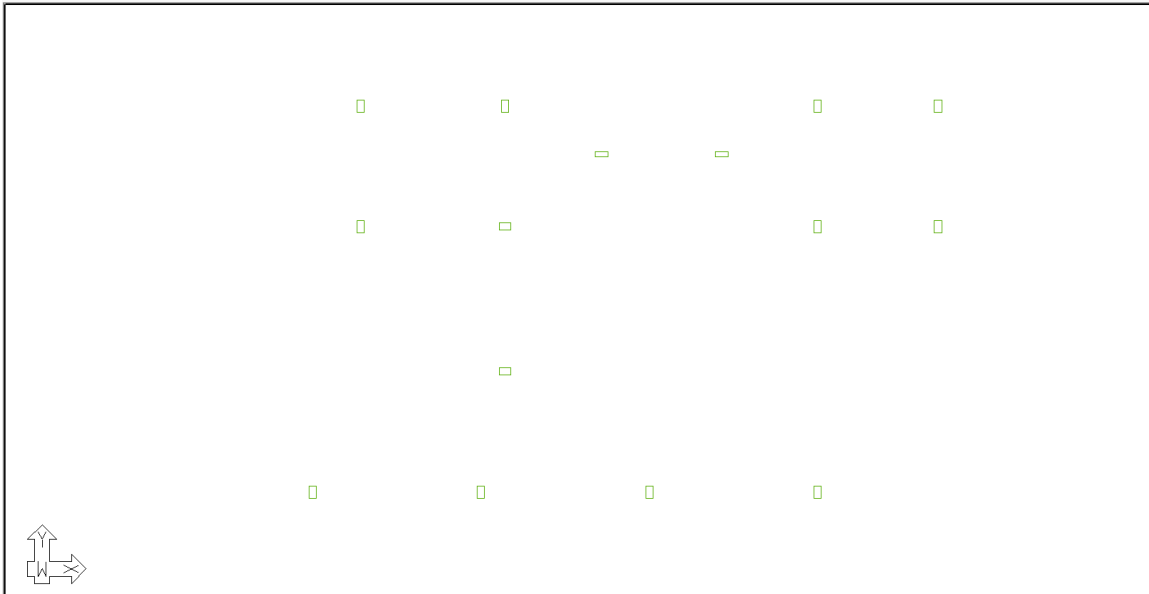

FIGURE 3-13
- Click on the **OK** button, the user should now see the polylines representing the columns from the imported CAD file as shown in **FIGURE 3-13**.